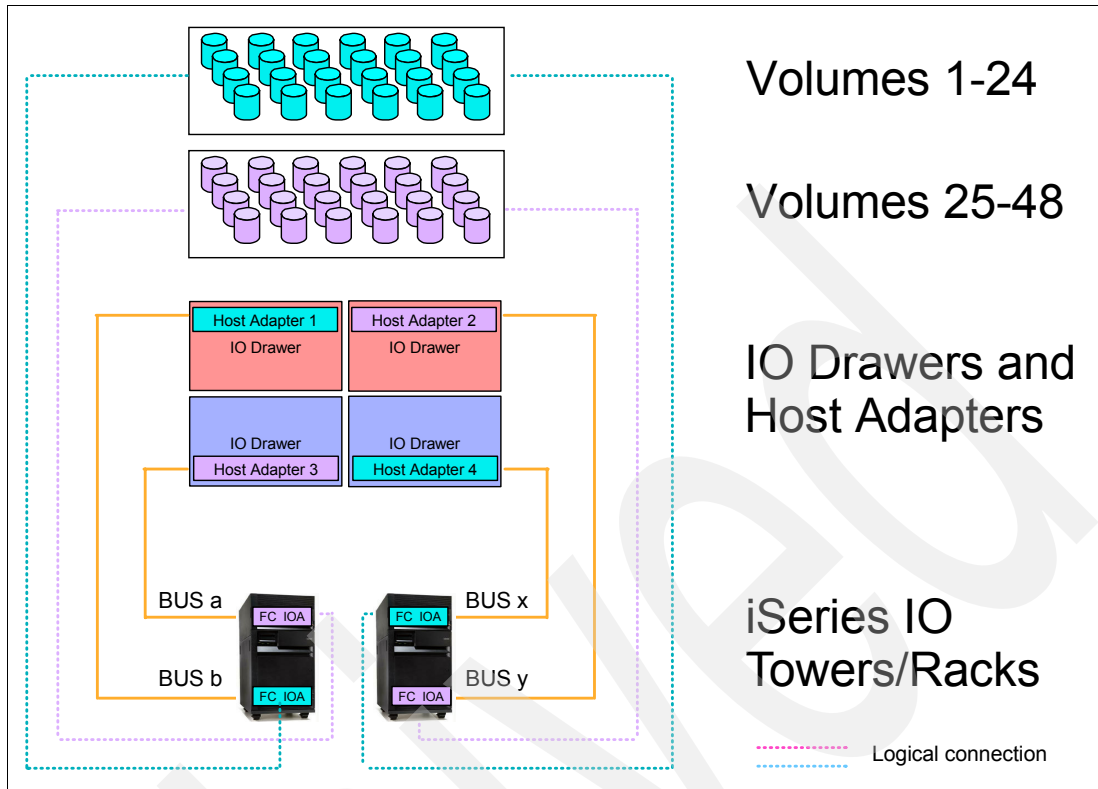

Figure 5-46 Example of multipath with the iSeries server
Figure 5-46 shows an example where 48 logical volumes are configured in the DS8000. The first 24 of these being in one DS volume group are assigned using a host adapter in the top left I/O drawer in the DS8000 to a Fibre Channel (FC) I/O adapter in the first iSeries I/O tower or rack. The next 24 logical volumes within another DS volume group are assigned using a host adapter in the lower left I/O drawer in the DS8000 to an FC I/O adapter on a different bus in the first iSeries I/O tower or rack. This is a valid single path configuration.